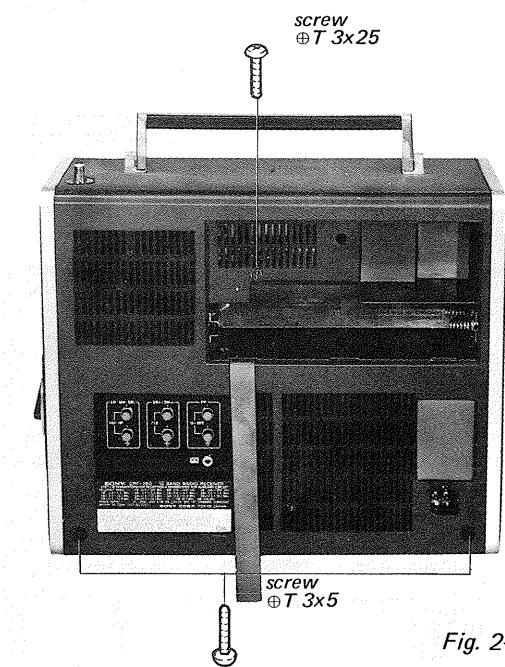

Fig. 2-2
- Remove the three screws shown in Fig. 2-2.